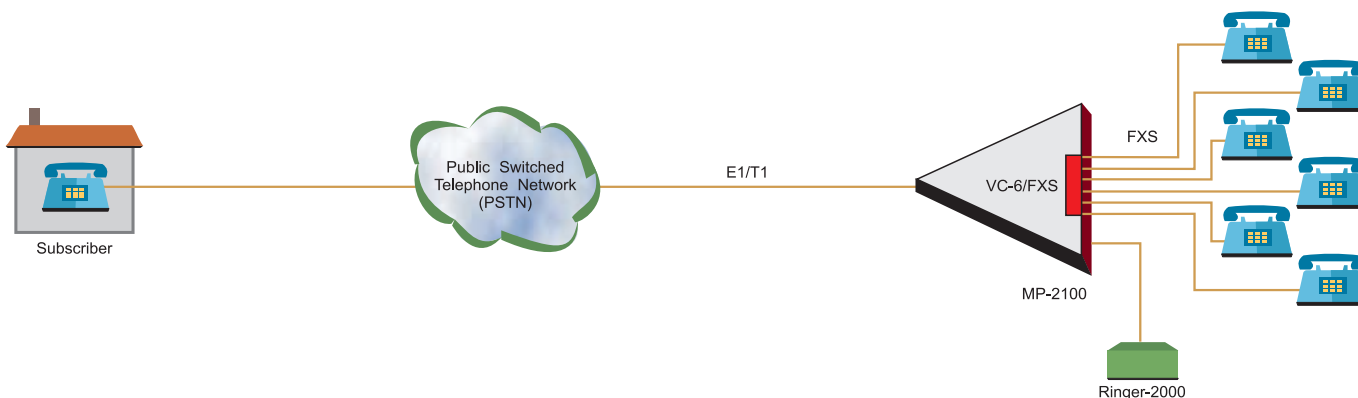

Figure 4. Typical PSTN Application for VC-6/FXS Modules
- Direct connection to a 2-wire telephone in PSTN applications (see *Figure 4*).
Additionally, VC-6/FXO modules can be used in PSTN applications, similar to those of VC-6/FXS modules (see *Figure 4*).